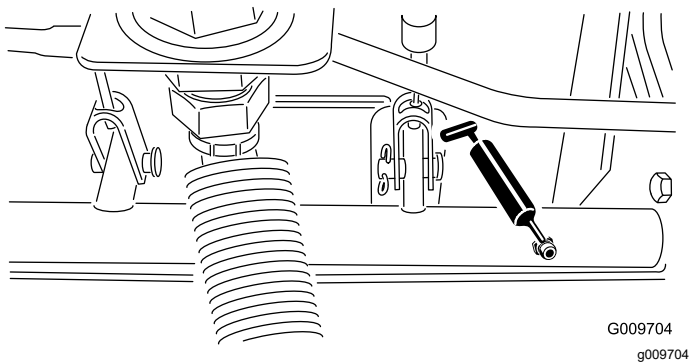

Figure 48
- Brake shaft pivot bearings (5) (Figure 48)